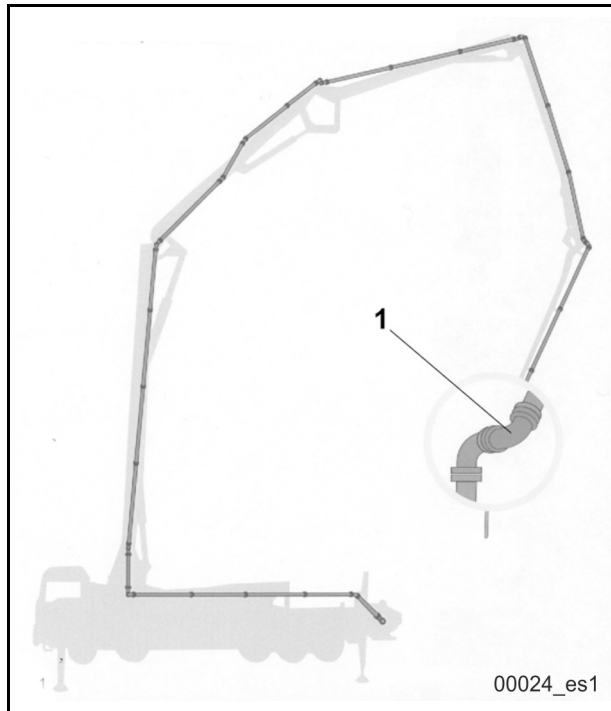

Fig. 208
The impact bend (1) (**Fig. 208**) is the penultimate bend in the boom pumping line. The concrete frequently falls into this elbow and the impacting material causes so-called impact wear.